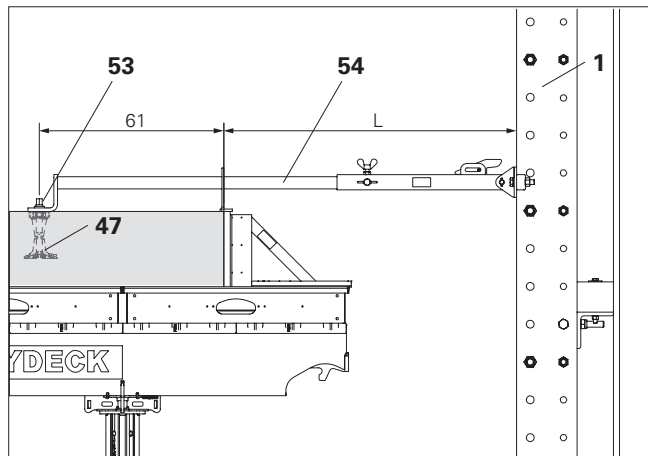

Fig. D1.01
4. Tighten wing screws (**54.1**). (Fig. D1.01 + D1.02)